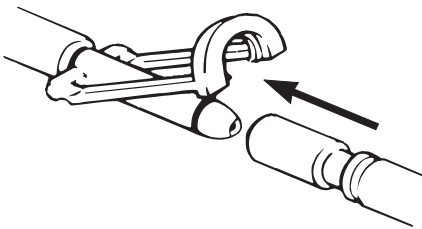
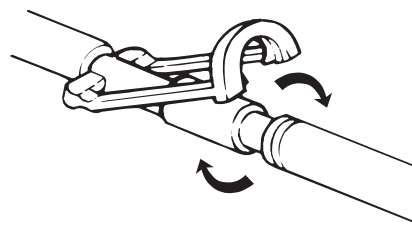

Figure 1-3: Connecting fittings
Figure 1-4: Twist fittings
1. Insert the male fittings into the female fittings with a twisting motion (Figure 1-3 on page 10 and Figure 1-4 on page 10).